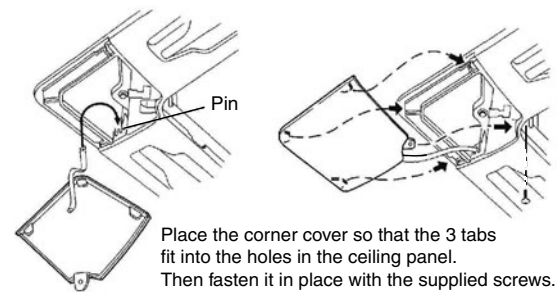

Fig. 3-25
- (1) Check that the safety cord from the corner cover is fastened to the ceiling panel pin, as shown in the figure. (Fig. 3-25)
- (2) Use the supplied screws to attach the corner cover to the ceiling panel. (Fig. 3-25)